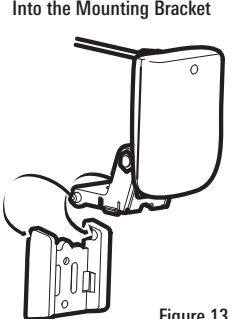

Figure 13
4. Insert the pivot arm assembly into the mounting bracket (Figure 13). Do NOT snap the assembly closed, as you will need to access the mounting bracket in the next step.